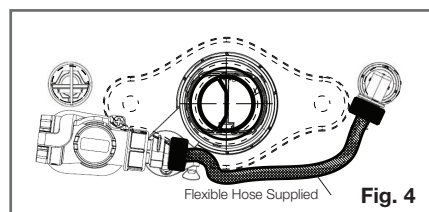

Fig. 4
- 3- Connect Inlet adaptor top end and BE Inlet valve with supplied flexible hose as detailed in **Fig. 4**.